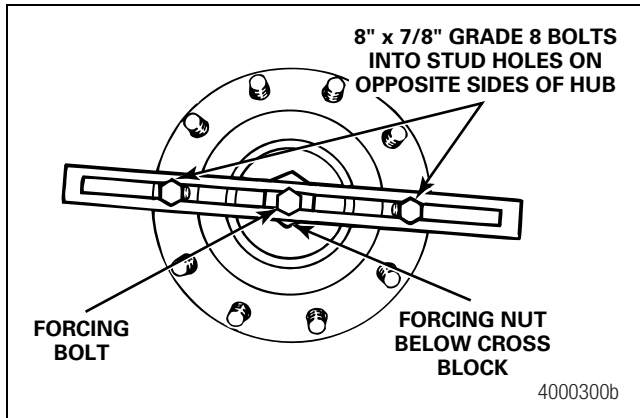

Figure 4.5
- B. Install a 17.5-ton cross block puller with two 8 x 7/8-inch Grade 8 bolts. Figure 4.5.